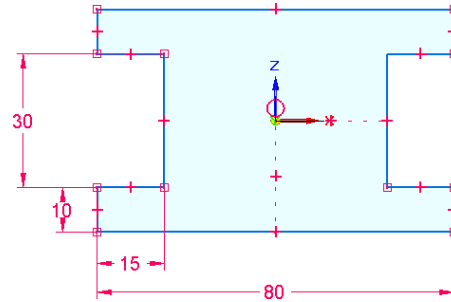

Figure 3-37 Profile after adding the relationships and dimensions
- Add relationships and dimensions to the outer loop, refer to Figure 3-37.
This completes the dimensioning of the outer profile. The profile after adding these dimensions is shown in Figure 3-37.